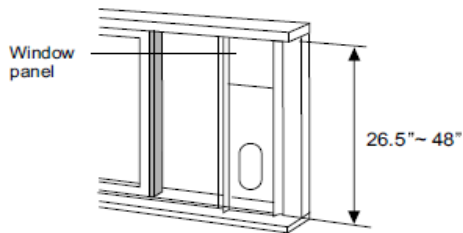

Fig. 15
3. Adjust the length of the window bars to the same length and width of the opening of the window. Cut the window piece if necessary to fit the length of your window. Fig. 15.